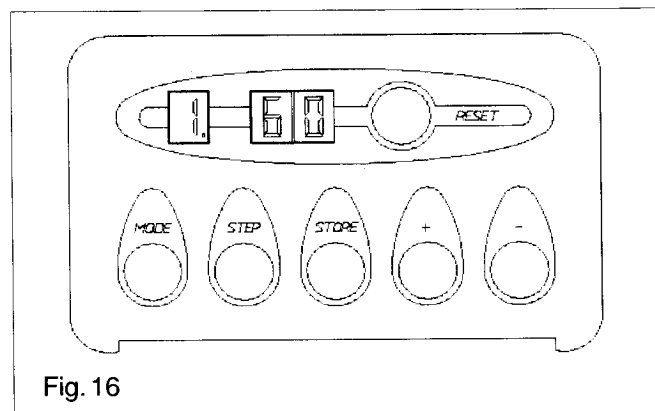

Fig. 16
- Press the MODE button until a FIXED decimal point appears in LED 1 (see fig. 16).
- Press the MODE button until it shows a FIXED decimal point (see fig. 16).